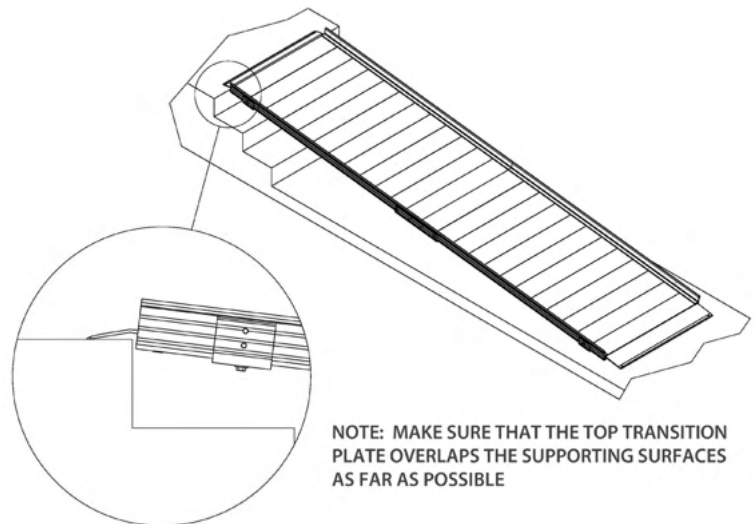

FIG. 3.16
- 3.6.6. Maneuver the ramp to its desired position (FIG. 3.16).